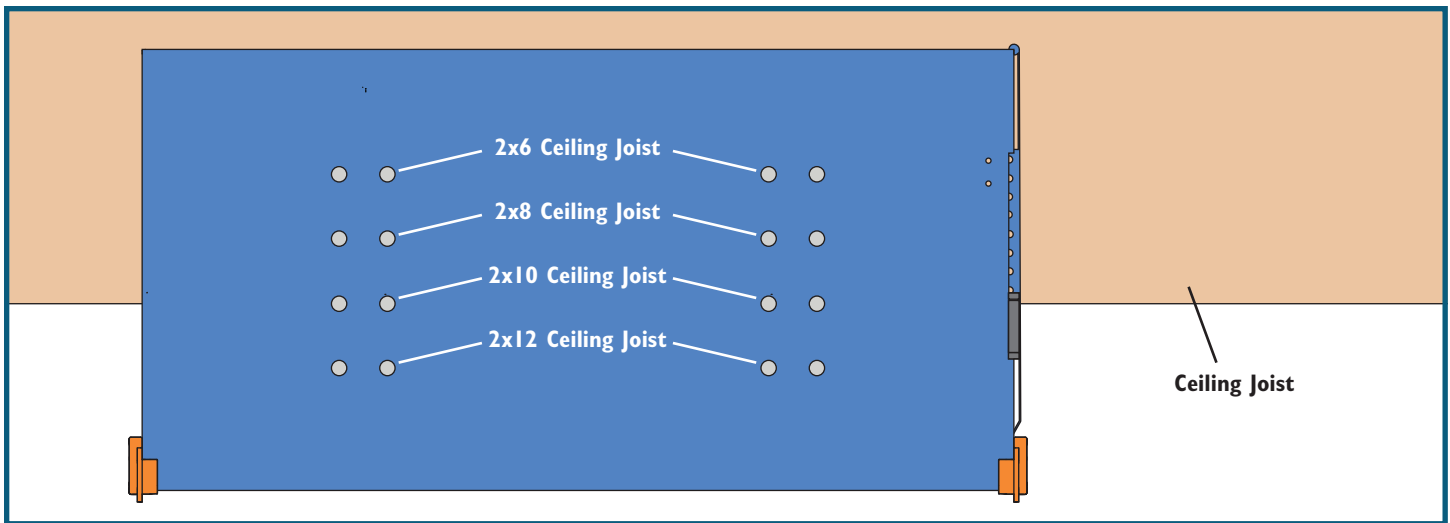
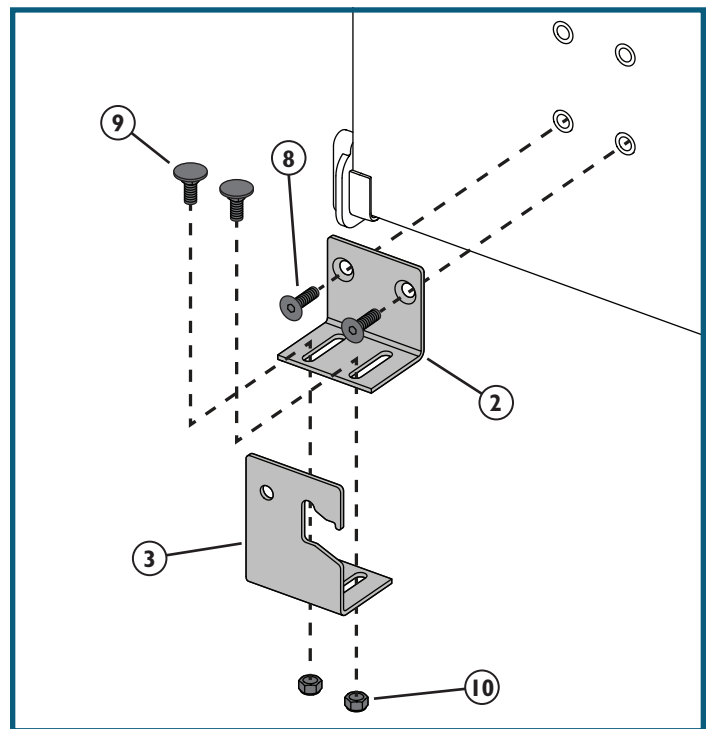

Fig. 1
Fig. 2
when attaching the Side Brackets. For 2x6 joists, we recommend using the top set of holes. For 2x8 joists, use the second set of holes down. For 2x10 joists, use the third set of holes from the top. For 2x12 joists, use the bottom set of holes. **Fig. 1.** Attach the Side Brackets (2) to the Compact Ceiling Air Filtration Unit (1) with M6 x 1.0 x 20mm Flat-Head Screws (8). **Fig. 2.** Note that you can mount the unit to be less recessed into the joists if desired by mounting the Side Brackets in a lower set of holes but that you **CANNOT** use a higher mounting position.
4. Attach the Joist Brackets (3) to the Side Brackets (2). **Position the horizontal flange of the Joist Bracket under the horizontal flange of the Side Bracket and align the slots.** From the top, place an M6 x 1.0 x 16mm Carriage Bolt (9) in each of the slots and thread on an M6 Nylon Locknut (10) from below. **Fig. 2.**
- Adjust the Joist Brackets (3) so that they will just fit outside the joists between which you will be mounting the Compact Ceiling Air Filtration Unit (1). At the mounting location, measure the distance from the outside of one joist to the outside of the other joist. Subtract the width of the air filtration unit – 14" – from the distance you just measured. Then divide that number by two to determine how far the inside edge of the Joist Bracket needs to be from the unit.
- Once you have adjusted the Joist Brackets (3), use a wrench to tighten the M6 Nylon Locknuts (10).
- With the help of another adult, lift the unit up to the mounting location to make sure the brackets are spaced correctly and fit around the joists (but do **NOT** hang the unit at this point). If the brackets don't fit, return the unit to your work surface and make any necessary adjustments to the Joist Brackets. Make sure the M6 Nylon Locknuts (10) are fully tightened.